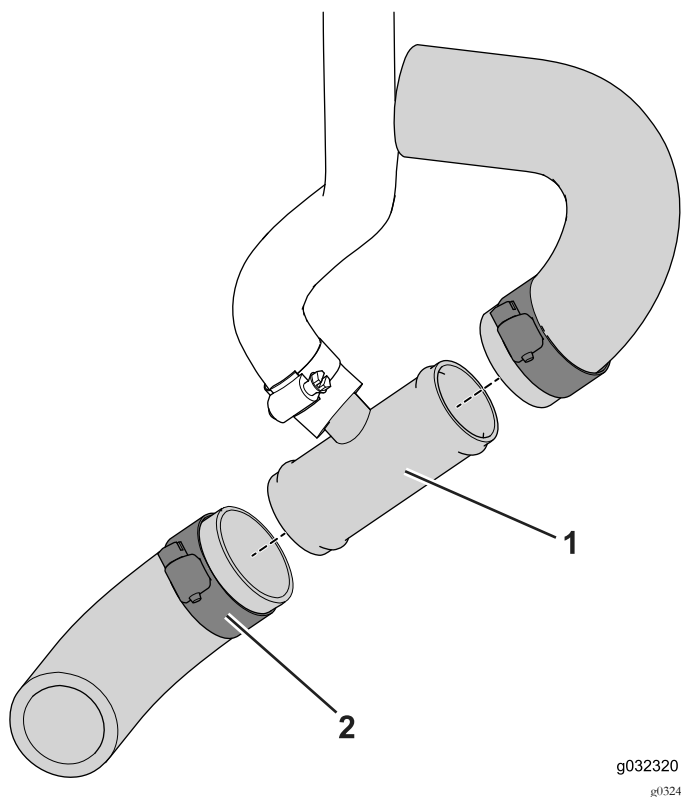

Figure 21
3. Slide the cut ends over the tee fitting and secure it using the hose clamp as shown in Figure 21.